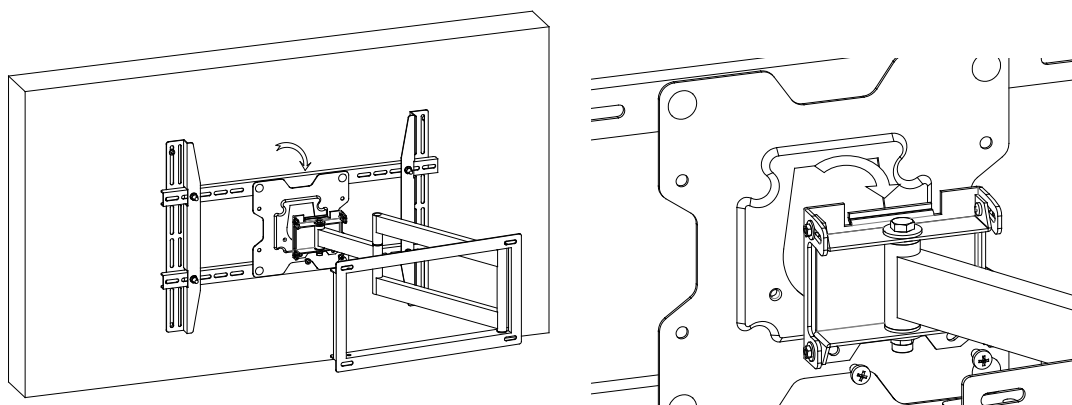

Figure 19
8. Lift the TV Display (with the Hook Plate firmly attached to the back) and slide the Hook Plate in place on the Swing Arm (Figure 19). Replace the securing screws that were removed in Step 5.